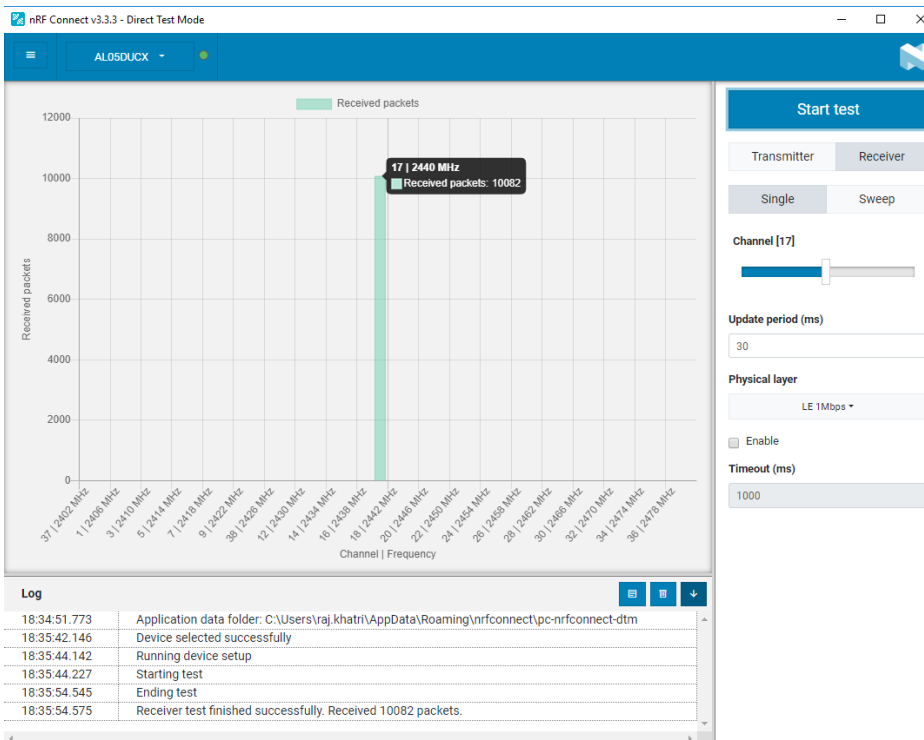

Figure 10: Successful initiation of BLE receiver rest (received packets)
2. Once configured, to start Receiver test, click **Start test**. **Figure 10** shows a BLE receiver test running.